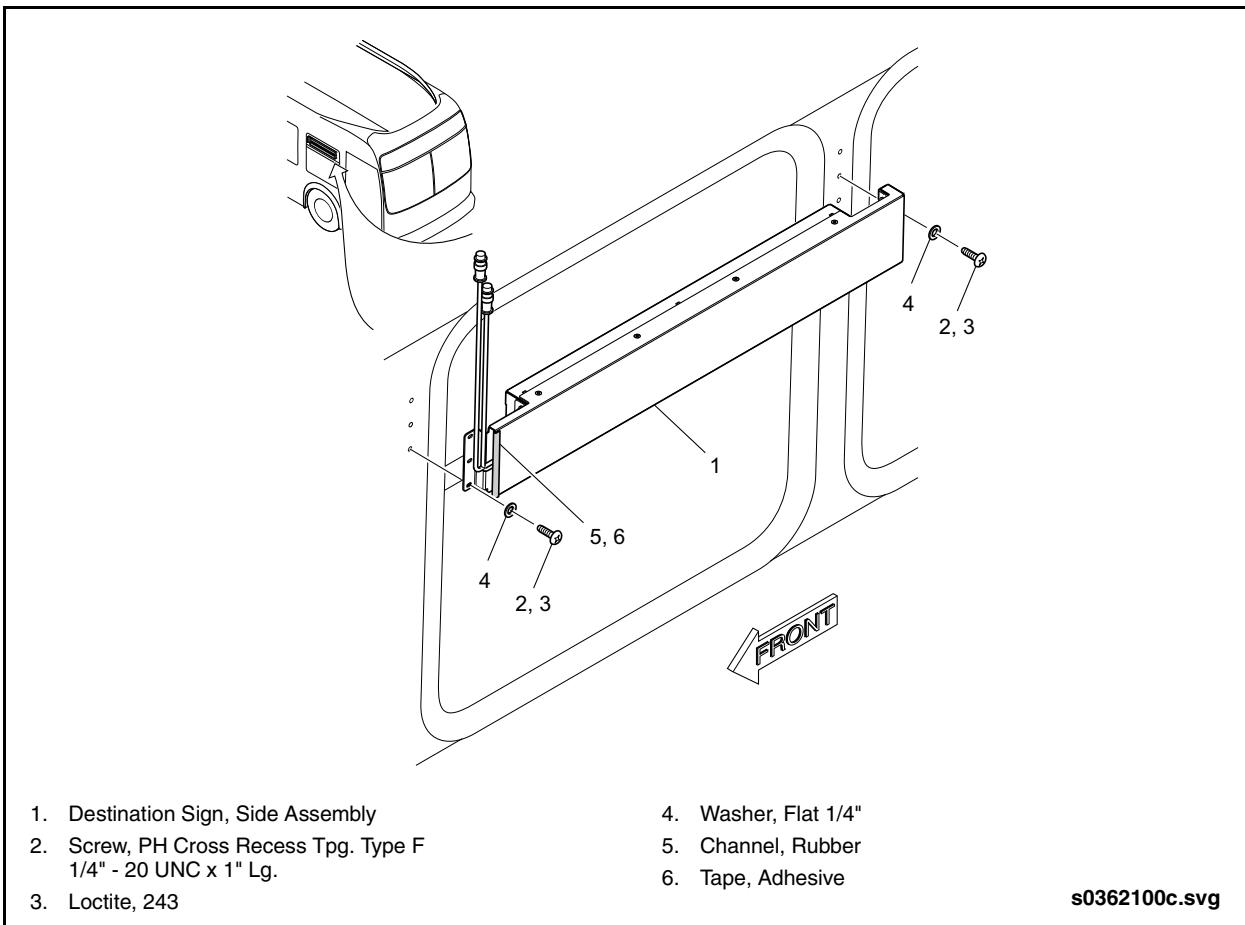

Fig. 18-3: Side Destination Sign Installation
2. Disconnect the electrical connections to the sign, and tag for reinstallation. See "Fig. 18-3: Side Destination Sign Installation" on page 9.